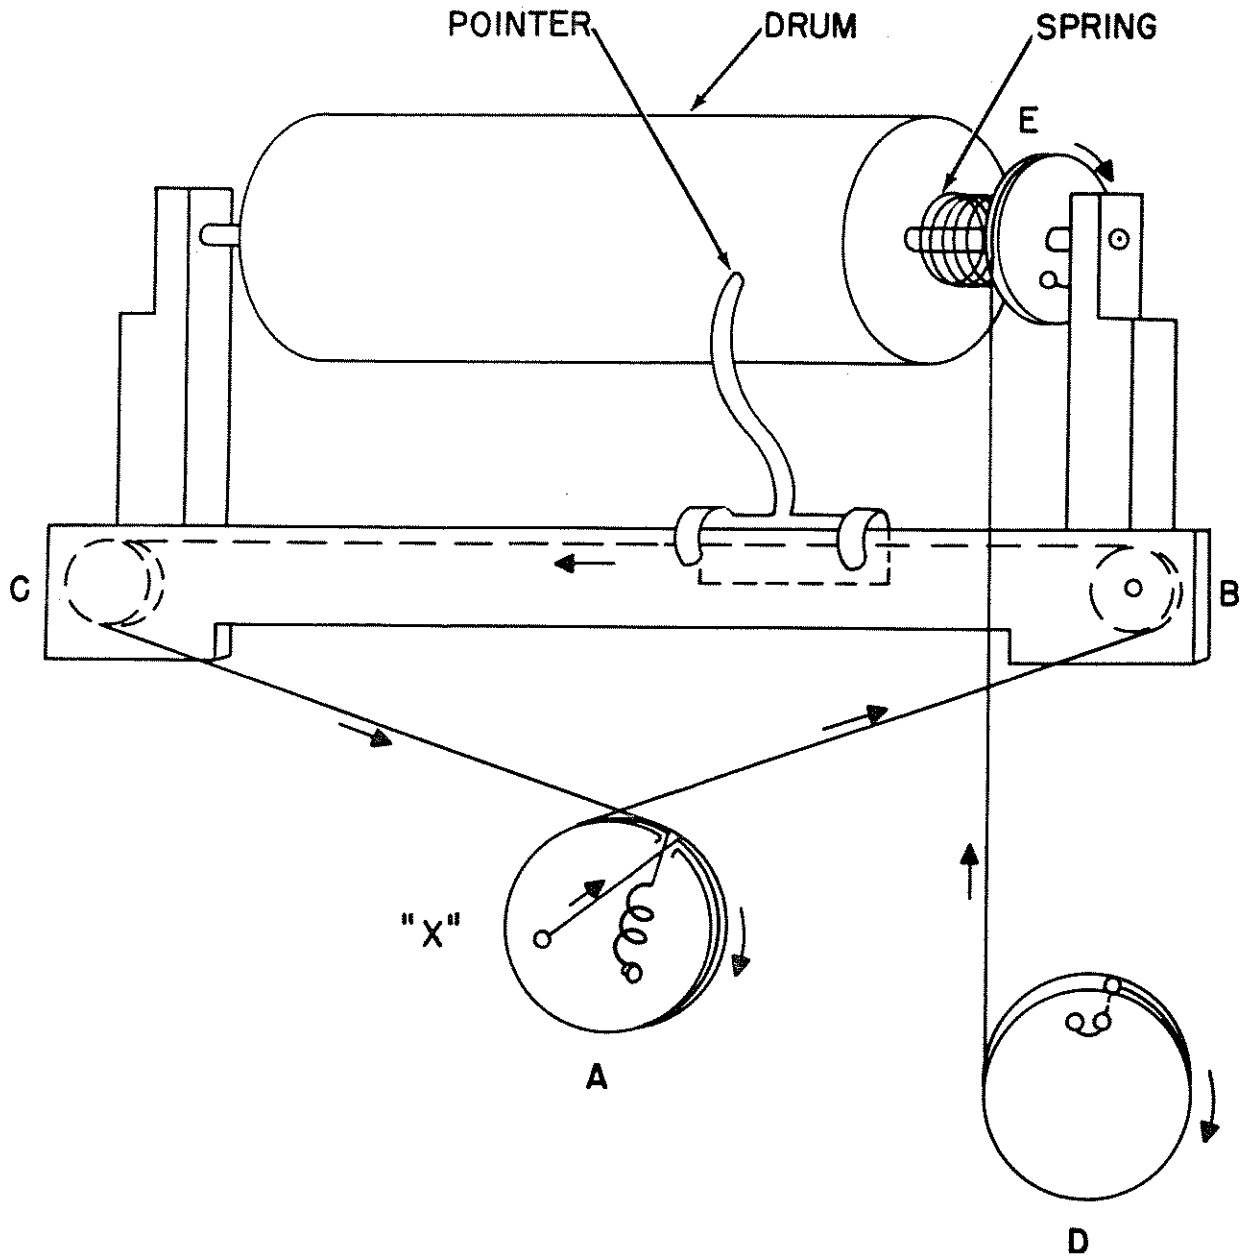

Figure 5-7. 51J-2 Dial Cord Arrangement
5.8.1. MEGACYCLE POINTER CORD. - Refer to figure 5-7. Remove the front panel according to directions in paragraph 5.6.2. If the cord is to be replaced, use 36-5/8 inches of Collins number 432 1009 00 nylon-covered cord.
(b) Tie a loop in the cord. Loop the cord over the tab at point X in figure 5-7.
(b) Turn pulley E, figure 5-7, about one-half turn and hold tension of spring.